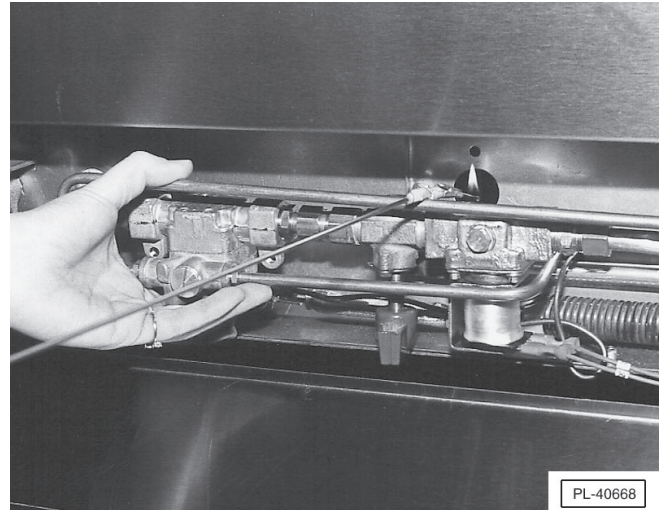

Fig. 19
3. Light oven pilot by depressing the reset button (Fig. 19) and, using a taper, ignite the pilot. Hold reset button in for 30 seconds or until pilot remains lit. Turn gas valve ON.